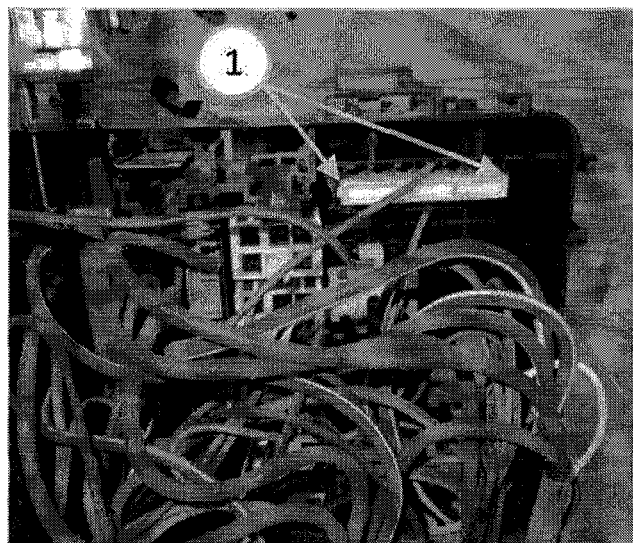

Fig. 3 Release Tabs On White Terminal Lock
11. Remove and discard the white plastic terminal lock see (Fig. 3).